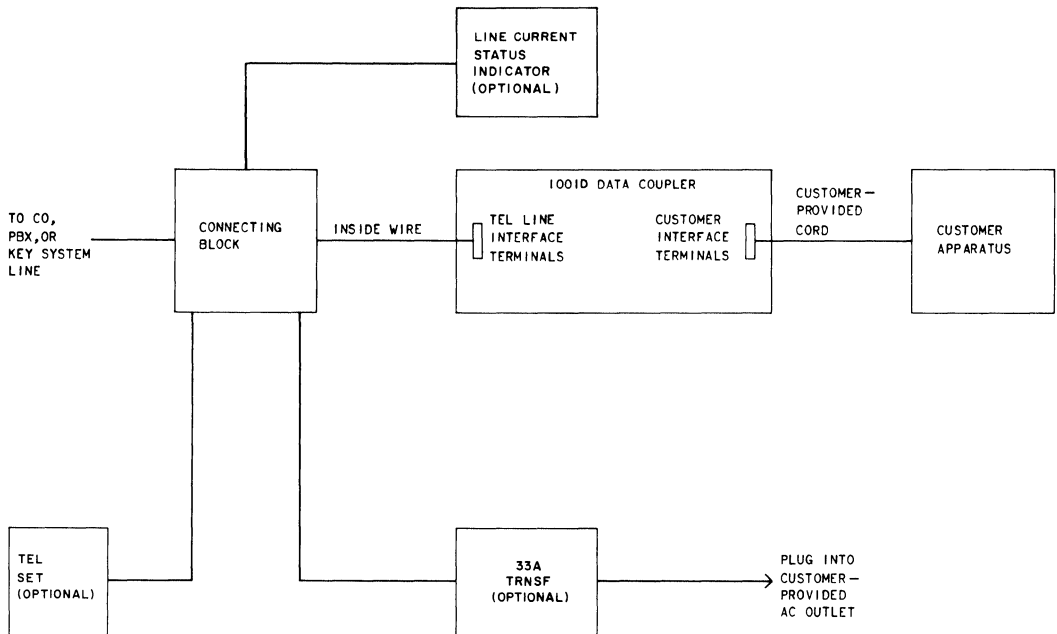
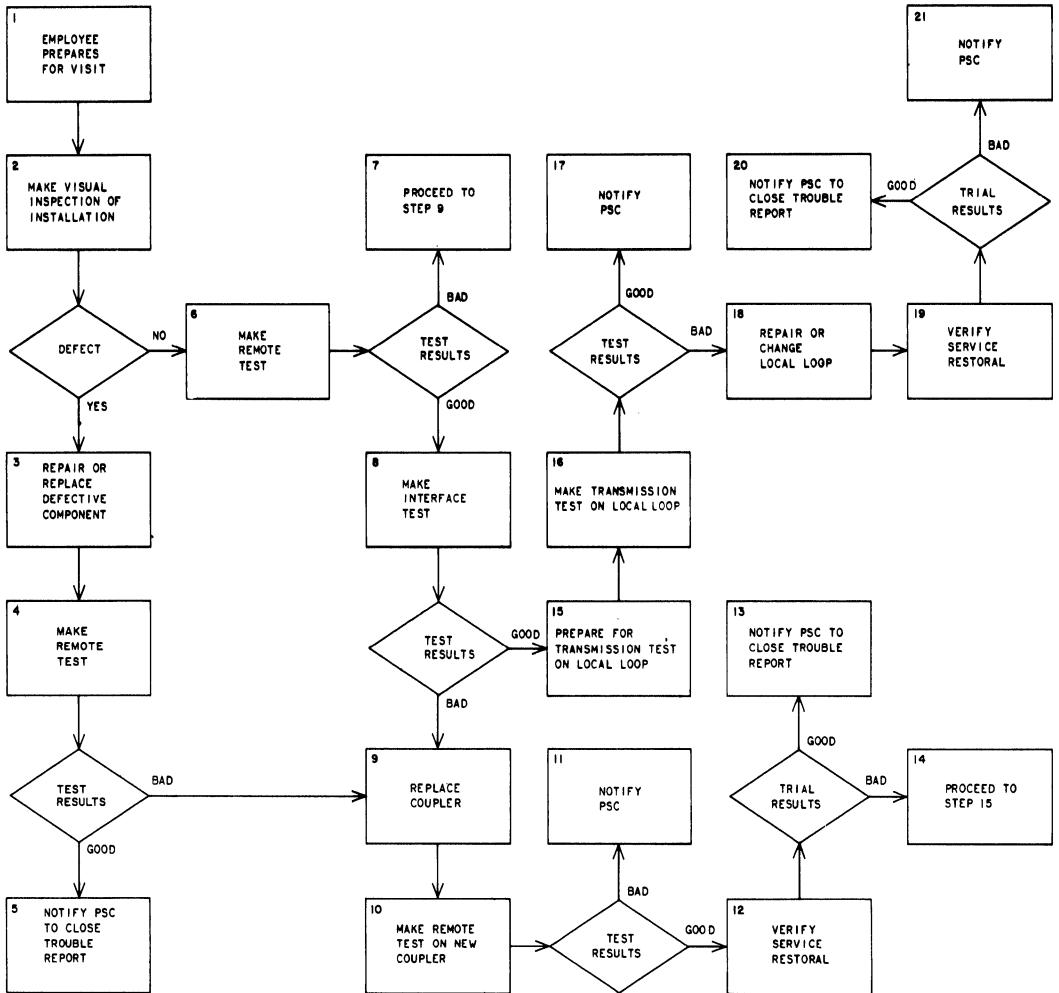

Fig. 12—Block Diagram of Typical 1001D Data Coupler Installation
Fig. 14—Activities for Troubleshooting at a Coupler Station
- (1) For all analog modems, Type II requirements should be specified.
- (2) For all other modems, requirements based on speed of modem (same as for switched DATA-PHONE service) should be specified.
- (3) If the type of modem is known to be similar to a Bell System DATA-PHONE data set, use the requirements for that particular data set.
4.03 Installation of the coupler should comply with general practices to ensure an orderly station arrangement. Information relating to a selection of type of connecting block and electrical code requirements is given in Section 590-010-200. See Fig. 12 for a typical interconnection block diagram.
5.06 On a maintenance visit, perform the most likely necessary tests or evaluations to isolate and clear the trouble within the station as directed by the PSC. Begin with the steps shown in Fig. 12 when test results and analysis received from the PSC lead to that particular activity. If a trouble report is not available or if the report is inconclusive, follow the suggested sequence of activities as illustrated in Fig. 14 and described in the following: